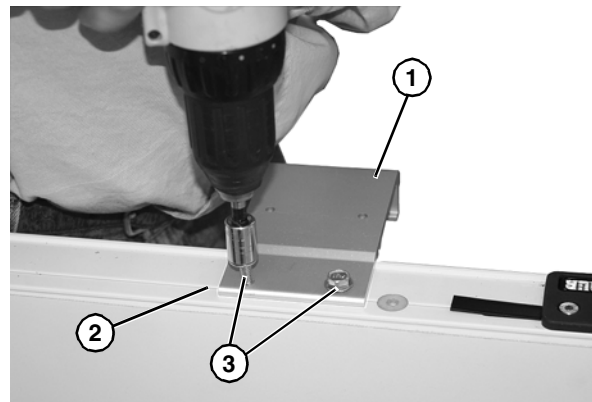

Figure 16
1. Locate and hold bracket (**Figure 16, item 1**) to side rail. Hole should line up with notch (**Figure 16, item 2**) in side rail.
2. With a cordless drill or equivalent install self-drilling screws (**Figure 16, item 3**). Use high speed setting to drill through side wall. Once the tap portion is started switch drill power to a lower speed. Do not fully tighten with drill.